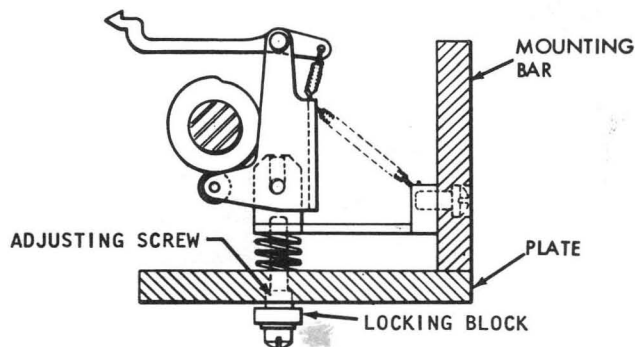

Figure 3-30. Forward Aligner, Side View
- b. Turn forward aligner adjusting screw clockwise to move forward aligner away from hopper and counterclockwise to move forward aligner toward hopper. See Figure 3-30.